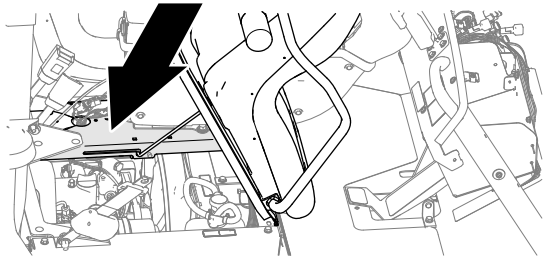

Figure 74
1. Tilt the passenger seat forward to access the console base (Figure 74).